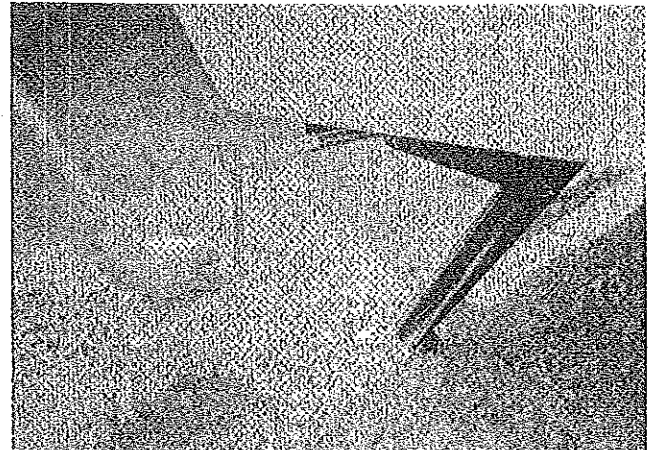

FIGURE 10
3. Rotate crank handle clockwise to extend jack to downward position. See Figure 10. Because of certain terrain conditions, it may be advisable to locate flat blocks of wood or flat rocks under the base plates of the stabilizer jacks.